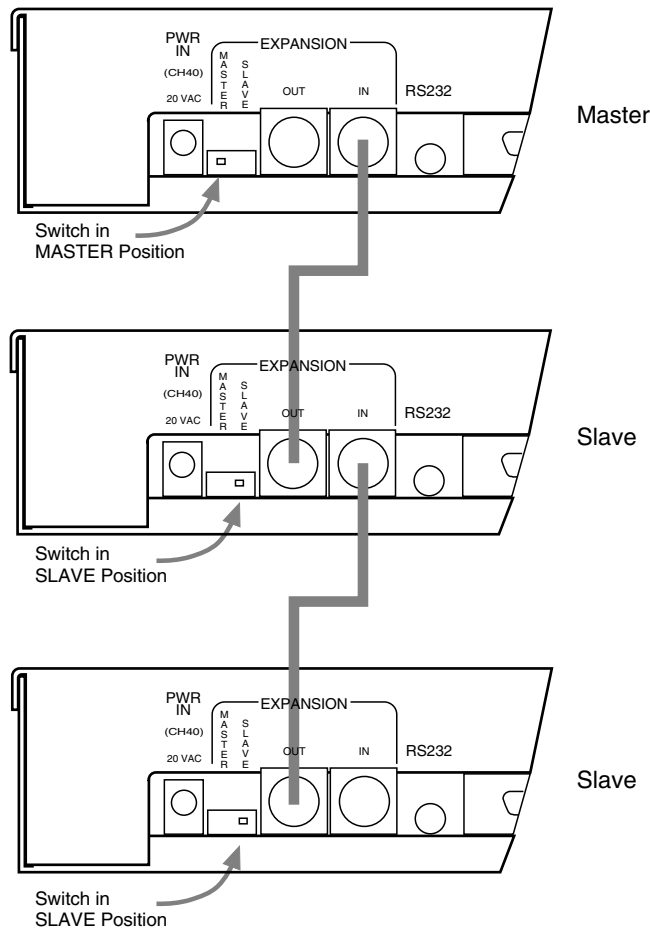

Figure 2 - Interconnection for multiple AS8s
Installing the AS8 properly is simple, and only requires attention to a few issues. The AS8 should be used in a grounded metal rack. If only one AS8 is being used, it should be placed in the Master mode, using the rear panel switch. Erratic performance will result if the unit is in the Slave mode, but no damage will be done to the unit. Proper operation will be restored when the unit is switched to the Master mode. If multiple AS8s are used together, the first AS8 (i.e. the one with Expansion In port used but not the Expansion Out port) should be switched to the Master mode, while all other AS8s should be in the Slave mode. Figure 2 shows the correct interconnection for multiple AS8s.
**EXPANSION IN/OUT** - connects multiple AS8's and/or AS8's to other LecNet compatible devices. The first AS8 should be in master mode, the others in slave mode (see figure 2 above). Use the optional cable IC-AS8 (Code Nr. 6000H1885) for inter-connection.